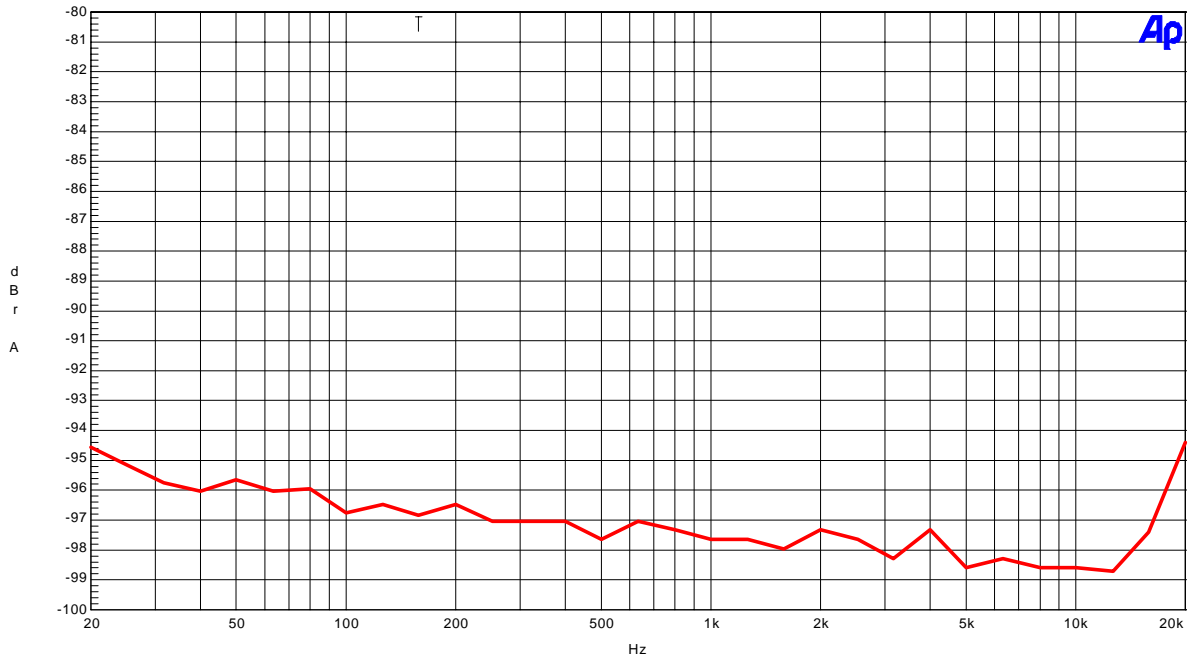

Figure 1-2. THD+N vs. Input frequency
- Figure 1-2. THD+N vs. Input frequency